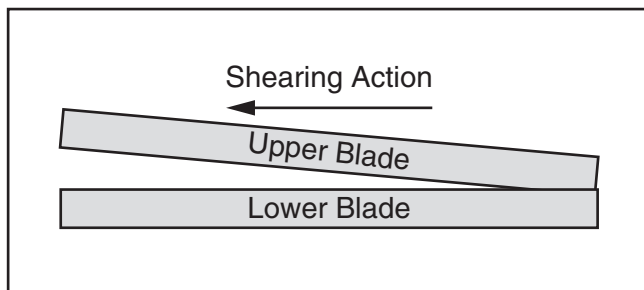

Figure 18. Blade shearing action.
- The shearing action of the blades works similarly to a pair of scissors (see illustration in **Figure 18**). Use even pressure on the foot pedal throughout entire cut to produce a straight, even cut.